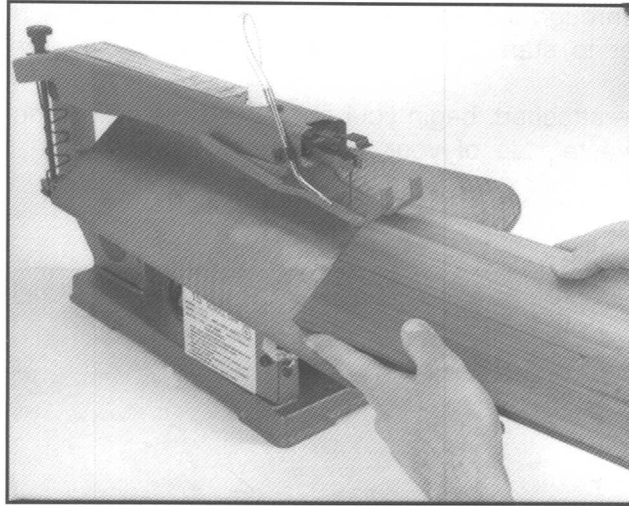

Figure 5
3. Using the same principles as in the previous sections, feed the work slowly and evenly into the blade, remembering not to force your will on the blade or the motor. See Figure 5.